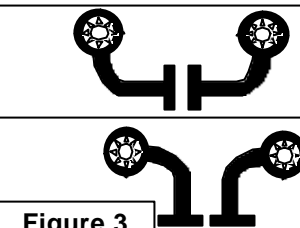

Figure 3
- Decide on a location for the LED clusters (flexible arms) under the vehicle body such that the mounting point does not protrude but the LED cluster does protrude from the vehicle width such that they are visible in the tractor rear view mirrors. See Figure 3. **For legislative purposes, they must be located within 1 metre of the rear of the vehicle.**